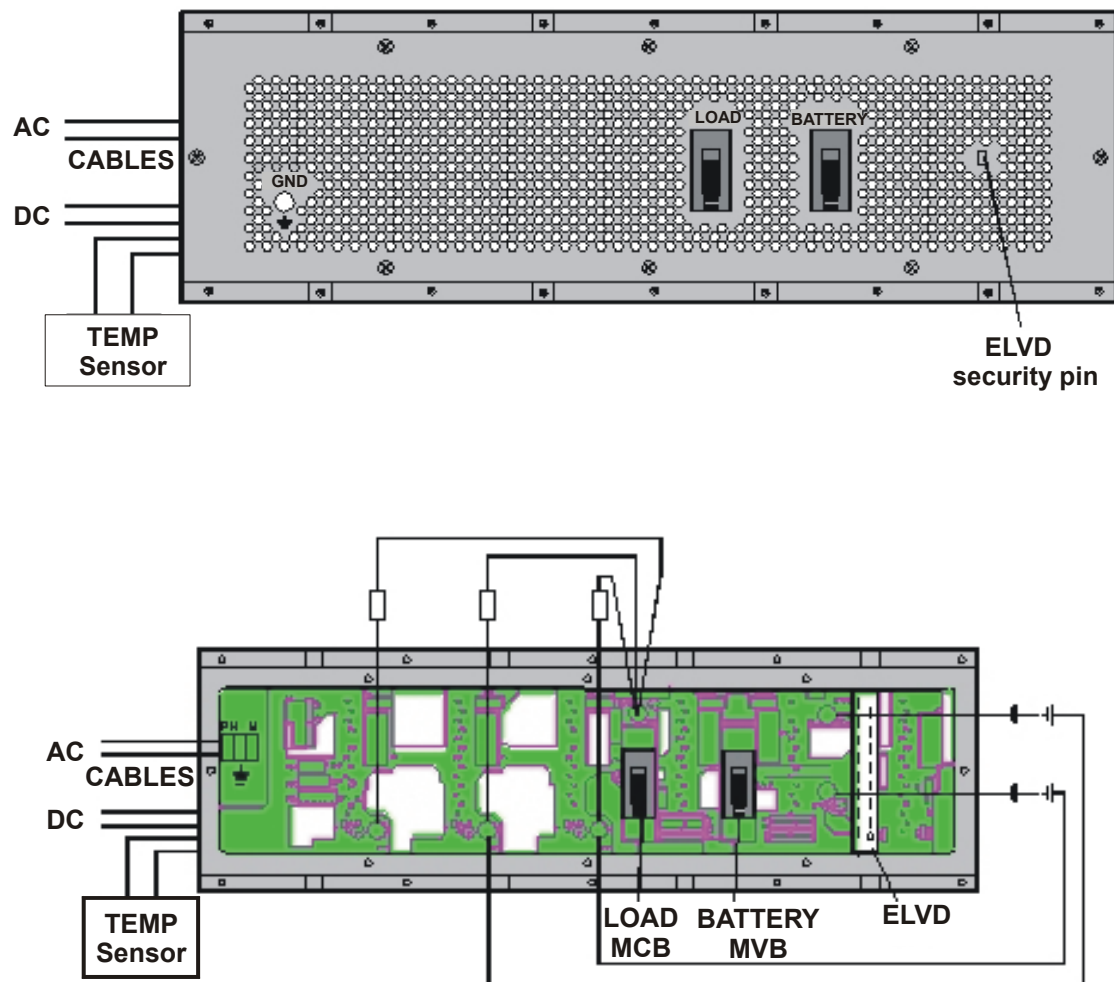

Figure 10: Battery and Load Wiring Connections
The system should be wired to the load(s) and battery set(s) as illustrated in Figure 10.
2. Connect the shelf to the battery and load via the battery and load terminals on the rear panel (see Figure 10) and close the rear cover with its screws.